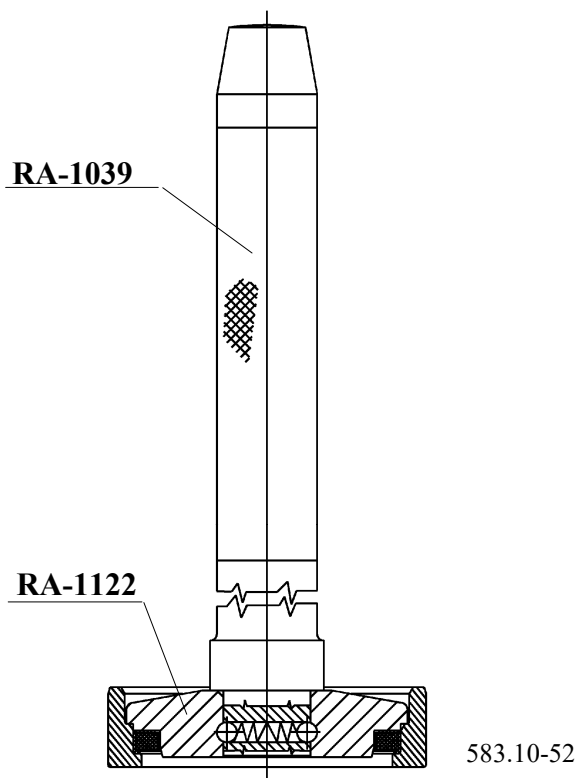

Fig. 2.: INSTALLING THE METAL CLAD SEALING RING INTO THE SEAL RETAINER
By means of the tool shown drive the dust protection seal (105) into the seal retainer Fig. 2.).